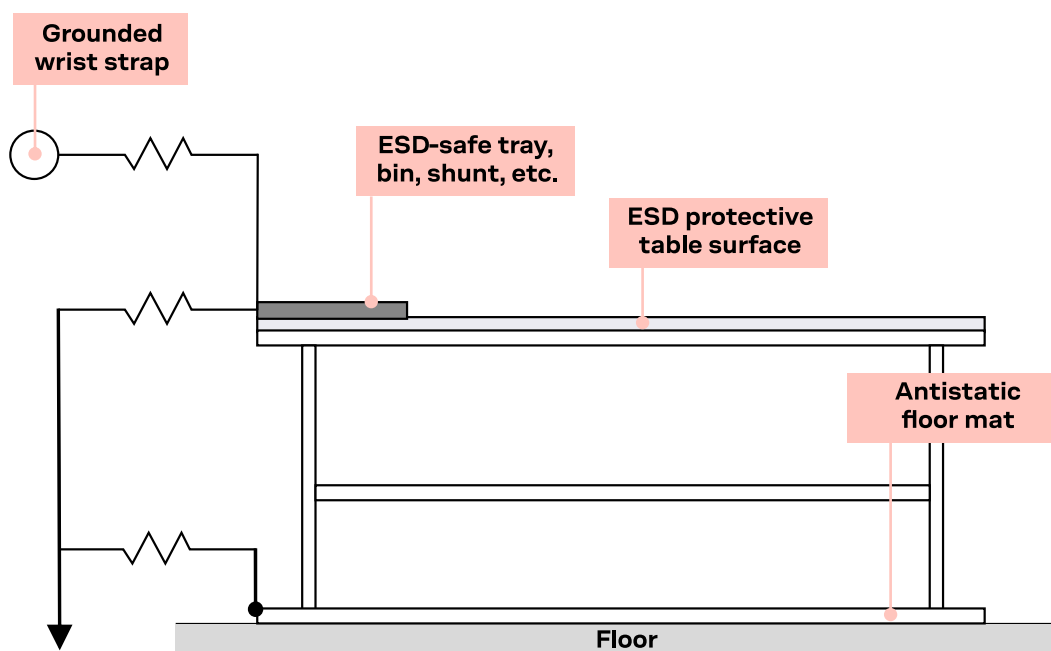

Figure 27: Standard workstation setup for safe handling of ESD-sensitive devices
- Open the package within an ESD-protected area (EPA), as in Figure 27.